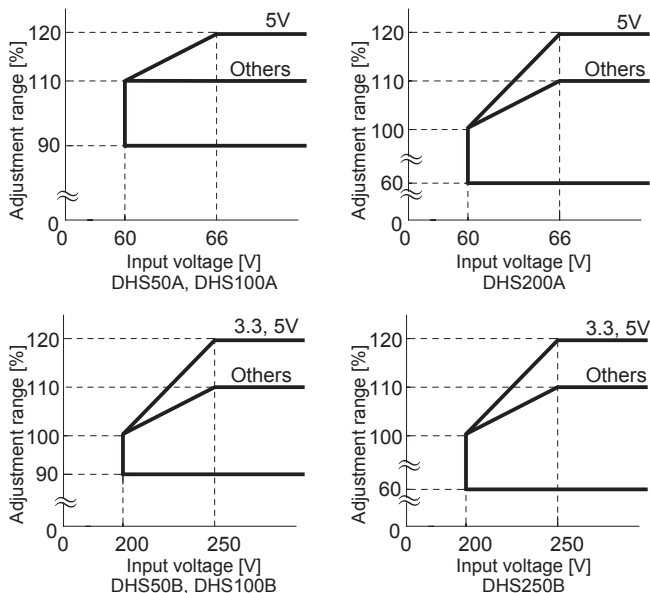

Fig. 4.4 Output Voltage Adjustment Range
■ When the input voltage is 60 - 66VDC or 200 - 250VDC, the output voltage adjustment range becomes as shown in fig. 4.4.